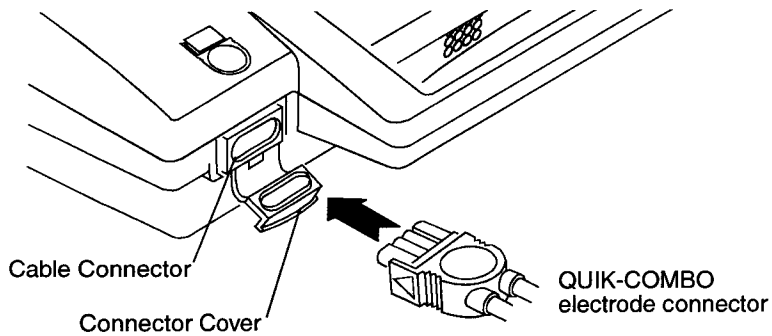

Figure 2-5 Connecting the QUIK-COMBO electrodes
- 3 Open the connector cover on the AED as shown in Figure 2-5.
- 4 Insert the electrode connector firmly into the cable connector on the AED as shown in Figure 2-5.
- When ready for patient use, open the electrode package and connect the electrodes to the AED as shown in Figure 2-5 above.